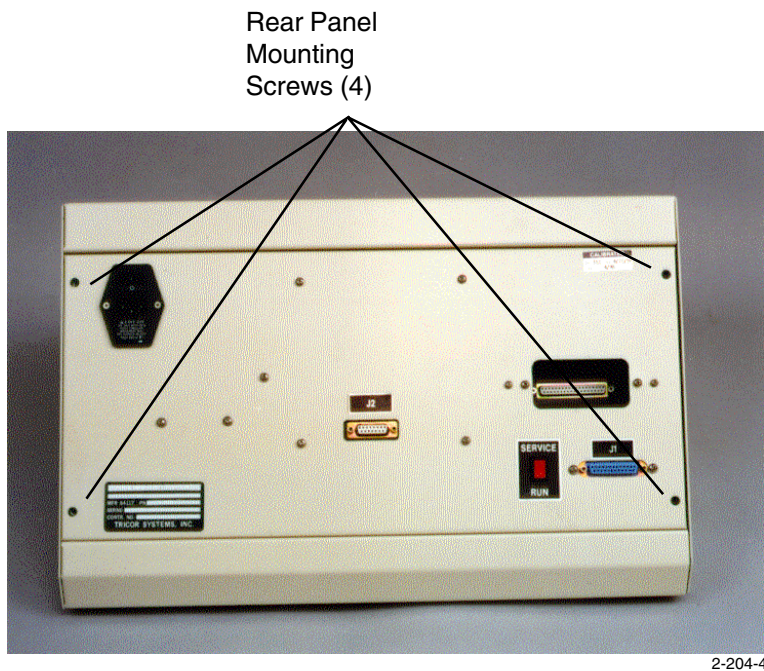

Figure C.1 921A Rear Panel
- Step 1 Power down the unit. Disconnect the ac power cord from the primary power source. Remove the rear panel from the unit (four screws - figure C.1) and lay down on a flat surface.